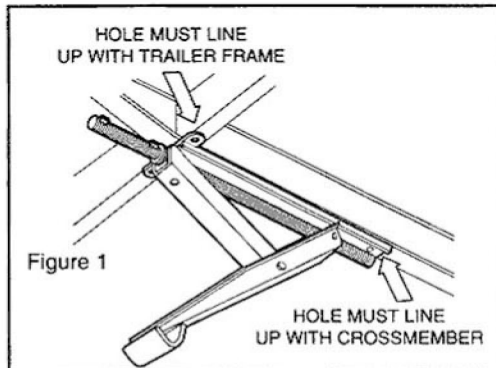

Figure 1
STEP 1. For each stabilizer, place the front mounting plate holes in the middle of the main trailer frame tube, position the rear of the jack so the mounting hole lines up with the crossmember. Crank the stabilizer open so it is secure against the ground and frame (Figure 1).